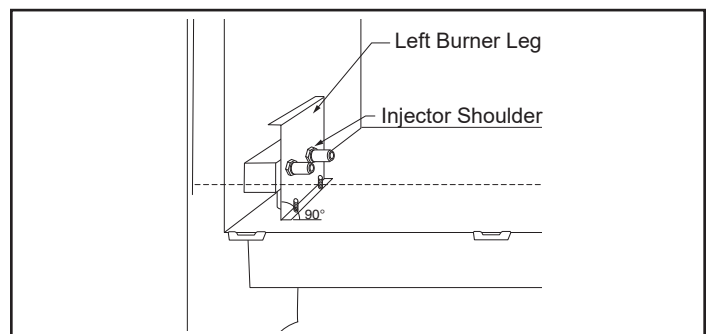

Figure 57 - Be sure to maintain 90° angle at left burner leg.
**NOTE:** It is very critical to keep the left burner leg, which holds the injectors, at a 90° angle to the base. (Figure 57) This keeps the orifices aligned with the tubes inside burner. Failure to do so could affect the flame appearance and performance of the unit.